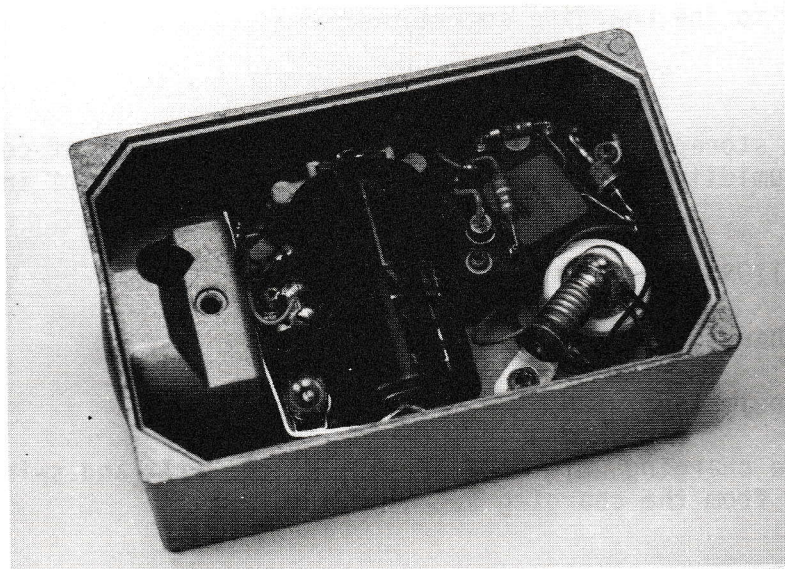

Fig L8.2
9. To charge the battery, unscrew by means of a coin the screw in the base of the instrument and remove the base plate. Remove existing battery and insert new battery so that the base of the battery is in contact with the spring. Replace the base plate and tighten the screw (Fig L8.2).
10. In the event of failure of the small light bulb which provides the internal illumination, first remove base plate (as in para 9). Unscrew the defective bulb and insert spare bulb contained in spring retaining clip (Fig L8.2). Replace base plate and tighten screw.